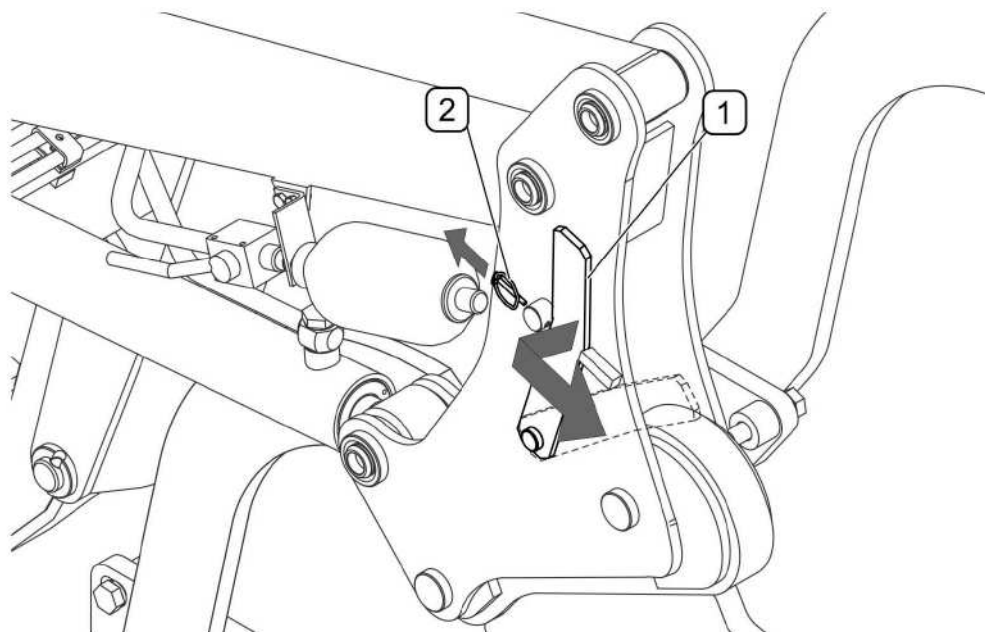

FIG. 4.34A Demounting loader from bearing frame
(1)- quick springlocks lever; (2)- securing cotter pins
- take out securing cotter pin (2), (FIG. 4.34A);
- push back lever (1) of lock and set it to the rear in open setting;